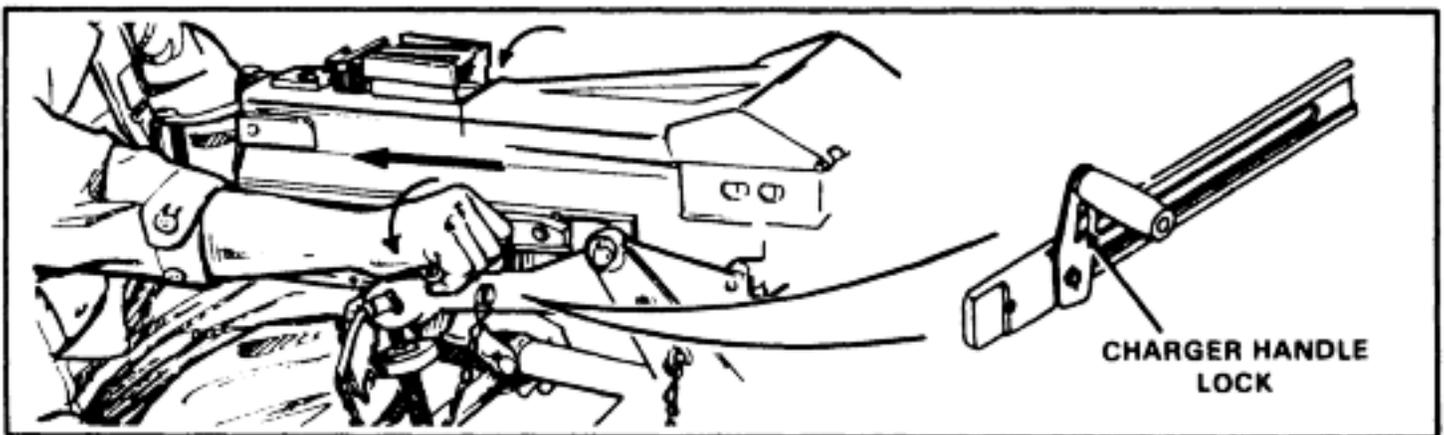

Figure 2-4. Charger handles.
- (4) Insert a section of the cleaning rod or bayonet through either side of the receiver rail. Place it on top of the live round or cartridge case, as close to the bolt face as possible, and push down. This action forces the round out of the MK 19.
- (5) Lower and pull both charger handles to the rear (Figure 2-4).